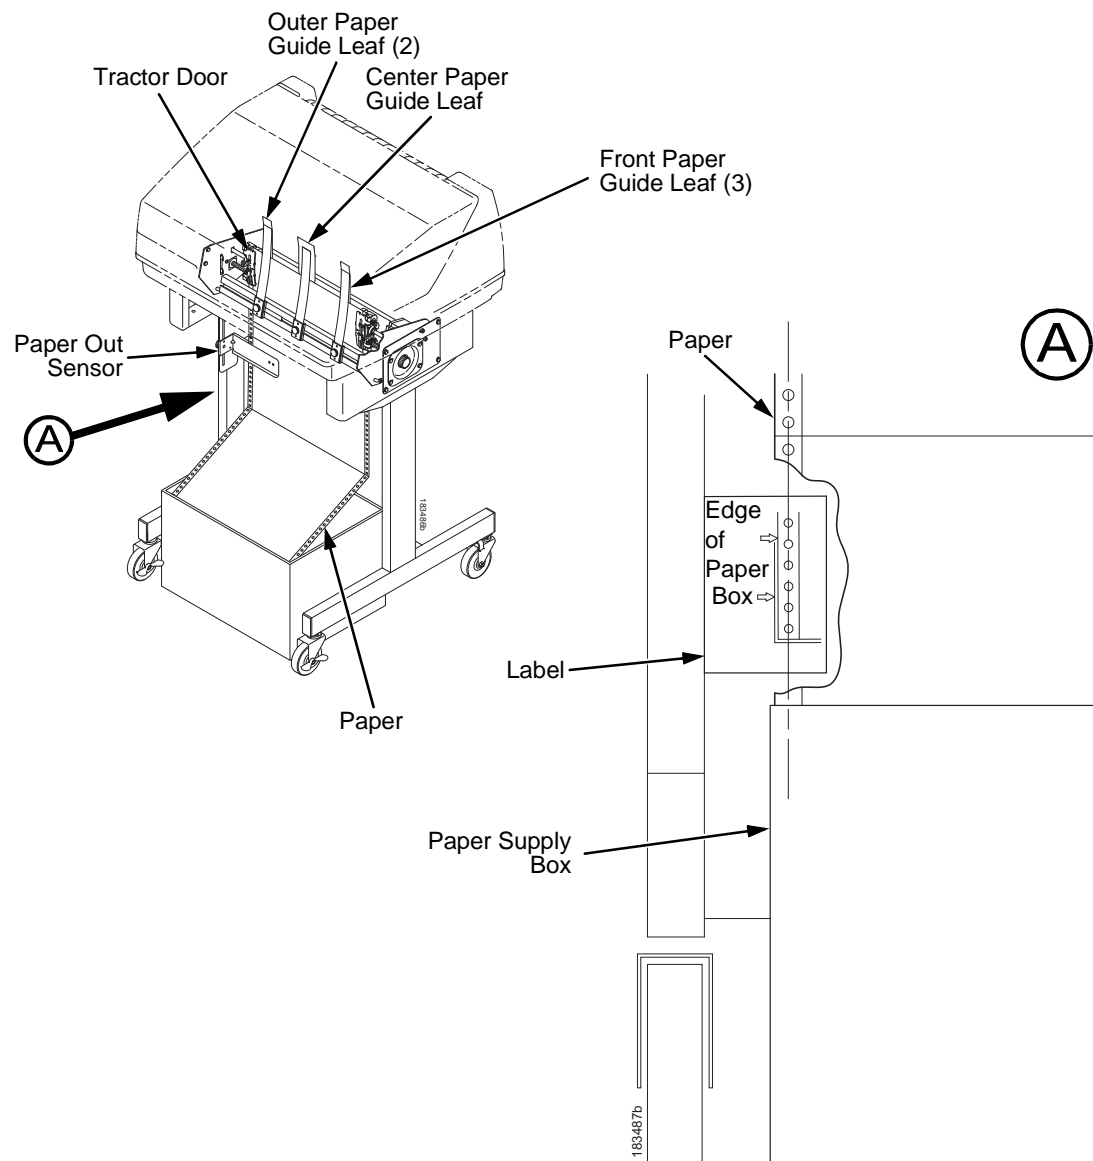
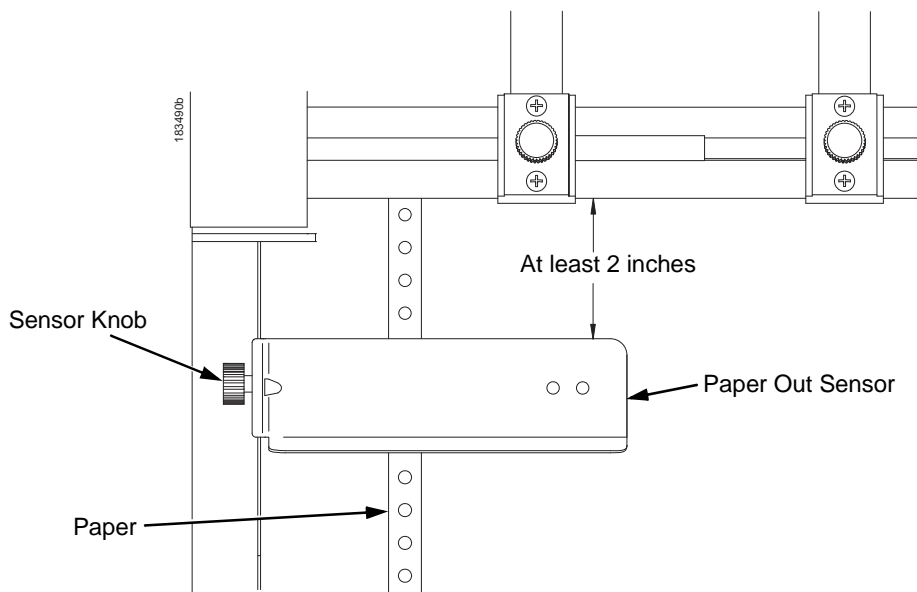

Figure 30. Loading Paper Onto The Printer
Figure 33. The Paper Out Sensor
1. Align the paper supply box with the label on the bottom left side of the modesty panel. (See Figure 30 on page 162.)
The paper out sensor indicates when the printer runs out of paper. (The sensor does not work with black backed forms.) Unlike the standard pedestal printer, the ZT printer requires you to load the paper through the paper out sensor slot (Figure 30 and Figure 33). Correct positioning of the paper out sensor ensures that the last form the printer prints will be properly presented to the tear bar. To position the paper out sensor, do the following: